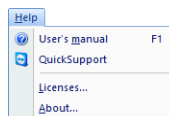

Figure 46 – Help menu
- **Help** – displaying the application version, installing licenses and browsing the electronic version of the user's manual (see Figure 46).